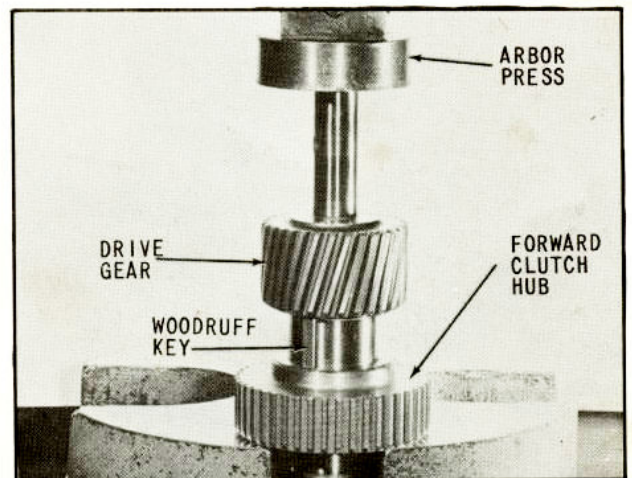

Fig. 41 Pressing Drive Gear into Forward Clutch Hub
34. Place the forward clutch hub on a suitable support placed on an arbor press in the position shown in (Fig. 41).
35. Assemble Woodruff key in the keyway provided on the drive gear, (Fig. 41).
37. Install the drive gear and Woodruff key squarely into the forward clutch hub, being careful to align the Woodruff key with the mating keyway in the forward clutch hub, (Fig. 41). Press the drive gear into the forward clutch hub until the gear "bottoms" on the face of the forward clutch hub and the groove for the snap ring is fully uncovered.